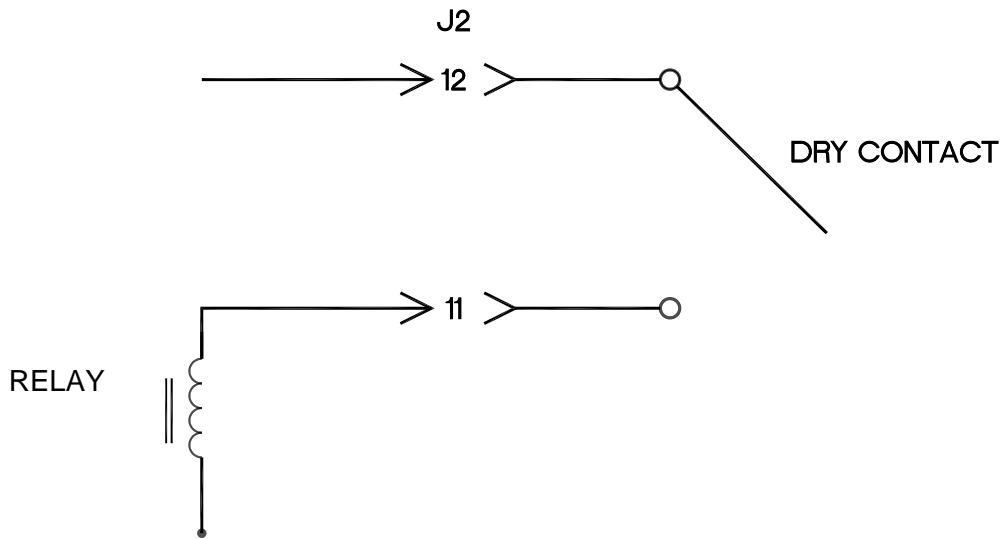

Figure 3.1 Interlock Logic Control
- 3) Close external Interlock by connecting J2-11 to J2-12 through a dry contact. See Figure 3.1 for wiring diagram and specifications.